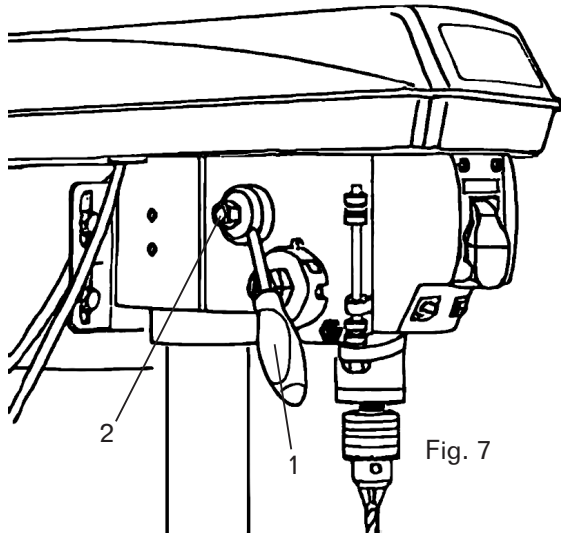

Fig. 7
## SPEED HANDLE (FIG. 7)
1. Insert the speed handle (Fig. 7 - 1) into the threaded opening on the speed hub (Fig. 7 - 2).